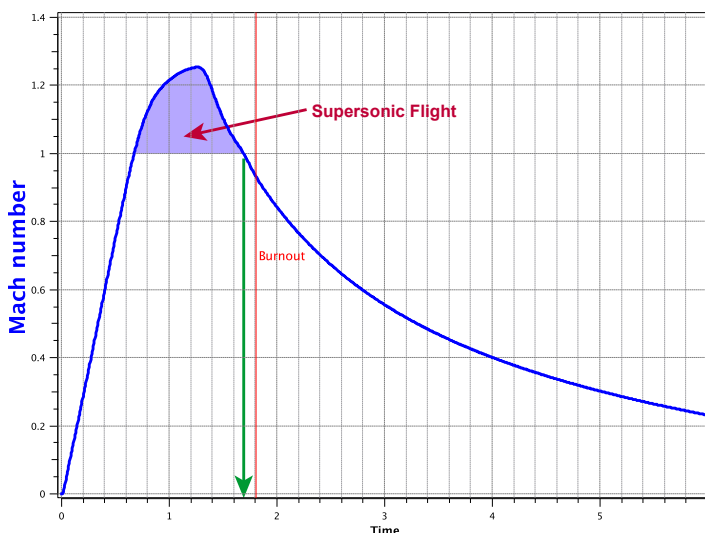

Figure 3: From the plots in RockSim, you can see where on the timeline the rocket is going supersonic.
Step 3: Have RockSim graph out the velocity versus time curve. The graph will show you the velocity of the rocket versus Mach number (see Figure 3).